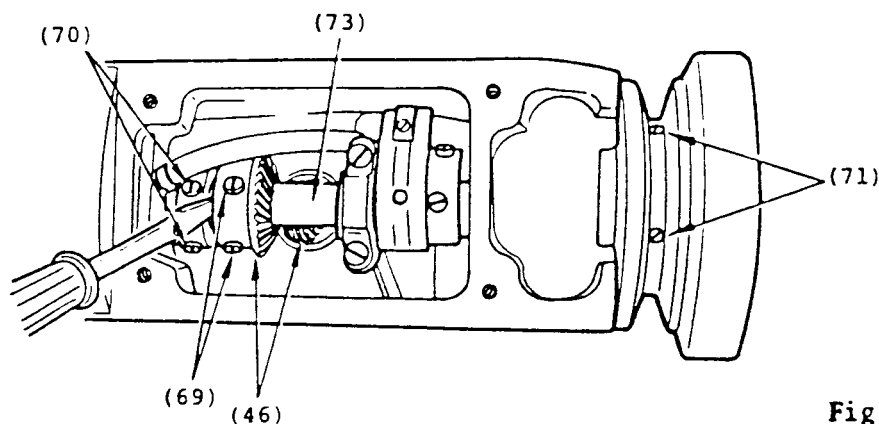

Fig. 36
3. While still holding the bevel gears at (46) in mesh with a screwdriver, as shown in Fig. 36, push the arm shaft (73) straight through the machine arm, thrust collar, bevel gear, and feed and feed lifting eccentric. When installing the new arm shaft, make certain that every care is taken to avoid injury to the ring and the oil seal in the arm shaft bushing.
4. Replace machine pulley on the arm shaft with the two set screws (71) located , over the two grooves on the shaft and temporarily tighten the set screws.
5. Locate arm shaft collar in position as shown in Fig. 36 to eliminate end play of shaft and firmly tighten set screw (70). Test the arm shaft for freedom in rotation.